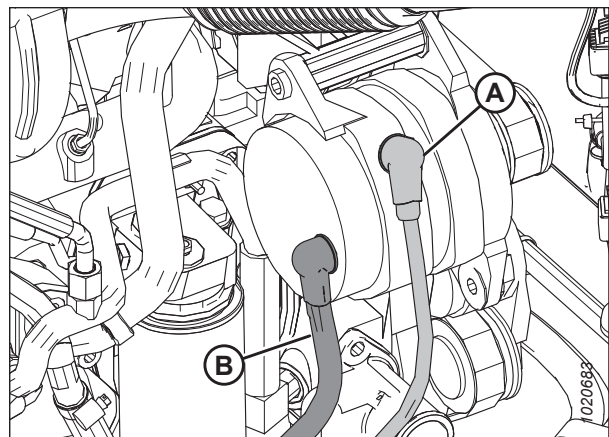

Figure 6.34: Alternator
- Do **NOT** short across battery or alternator terminals or allow battery positive (+) cable (B) or alternator wire to become grounded.
- If wires are disconnected from the alternator, refer to Figure 6.34, page 306 to ensure proper connection.